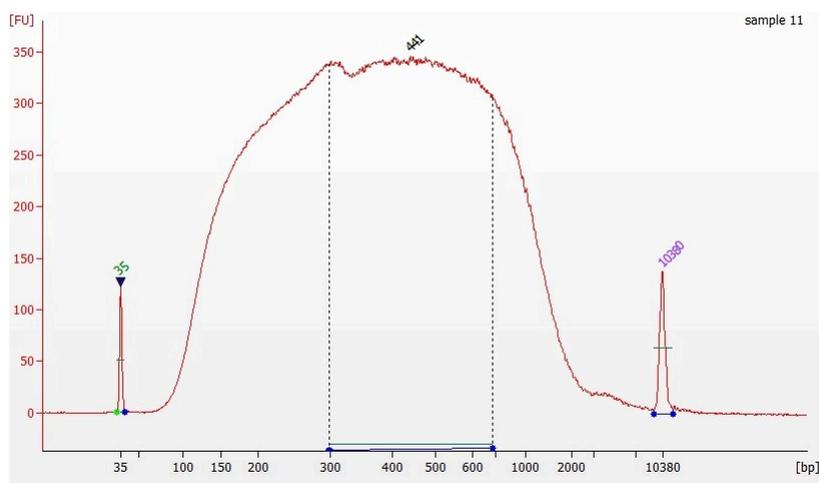

Figure 1 1000 ng gDNA (dissolved in pH8.0 1xTE buffer) 1.8x beads purification fragmentation product (30  $^{\circ}$ C, 11 min)
- For the first fragmentation test, it is recommended to take 40  $\mu$ L of product from the 80  $\mu$ L mixture in Step 6 for purification with 1.8X beads and elute in 25  $\mu$ L of En-TE. Take 1  $\mu$ L of elute product for Agilent 2100 High Sensitivity test and make sure the smear size is 100 to 2000 bp with the peak size between 300 bp - 800 bp (Figure 1).